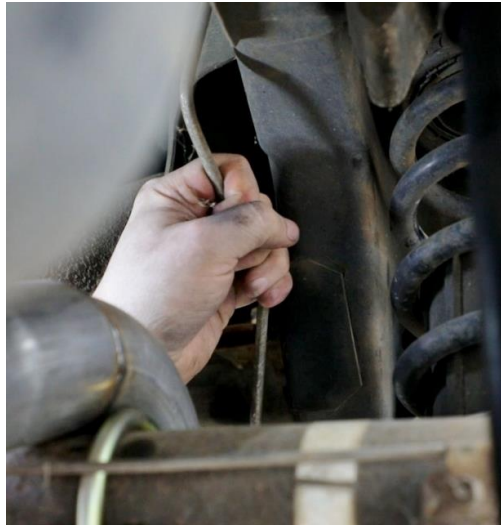

Figure 12 - Adjust Fuel Line
14. Next, carefully adjust the fuel line on the passenger side by hand towards the inboard side of the vehicle, moving it away from the frame rail (Figure 12).